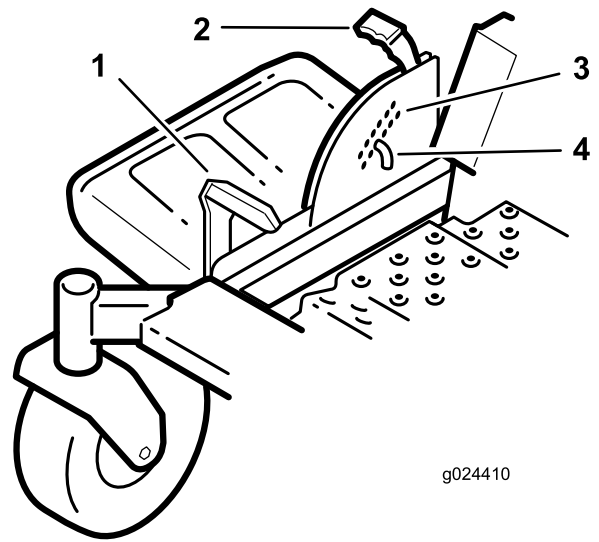

Figure 23
1. Push on the deck-lift pedal with your foot and raise the mower deck to the transport-lock position (also the 114 mm (4-1/2 inch) cutting height position) as shown in Figure 23.
2. To adjust, remove the pin from the height-of-cut bracket (Figure 23).
3. Select a hole in the height-of-cut system corresponding to the desired height of cut and insert the pin (Figure 23).